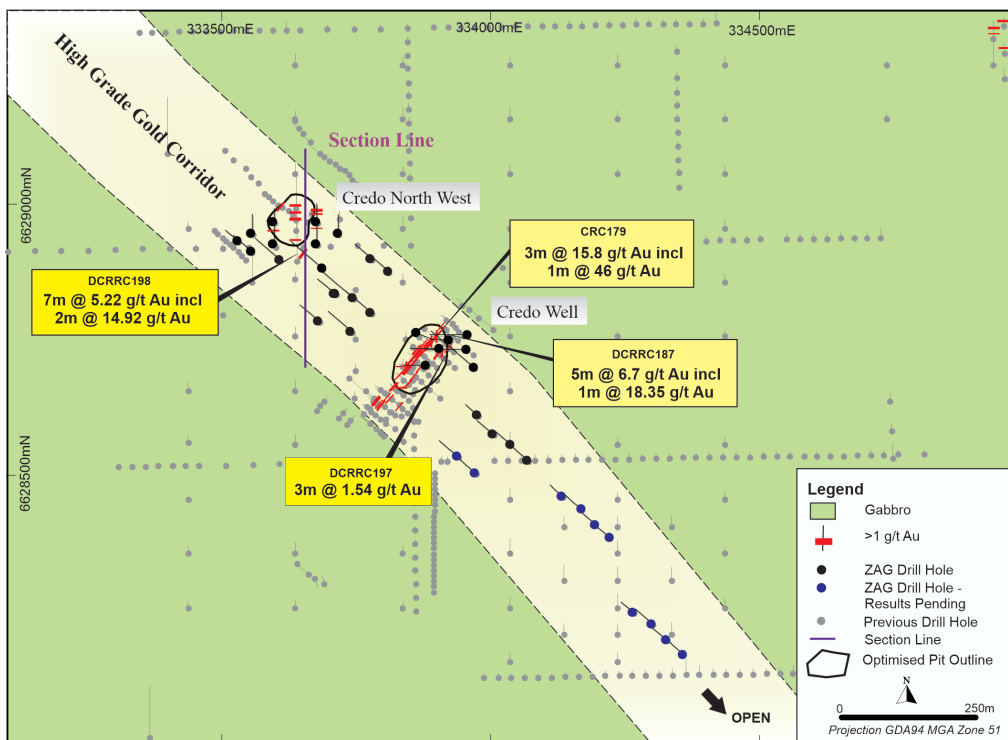

Figure 2 - Credo Well drilling to date, showing extent of the corridor tested
The Company is pleased to report it has completed a 27 hole Reverse Circulation (RC) program for 2,483m of drilling on the Credo Project (**Credo** or **Project**) (Figure 2). Encouraging results received for the first 17 holes, with best results including:
- down dip mineralisation at the northeast trending Credo North West and Credo Well resource areas (Figure 2); and
- the potential for repetition of similar style northeast trending structures within the high grade gold corridor (Figure 2) identified from strong gold in soil anomalies defined earlier this year (ZAG ASX Ann. 21/01/2021).